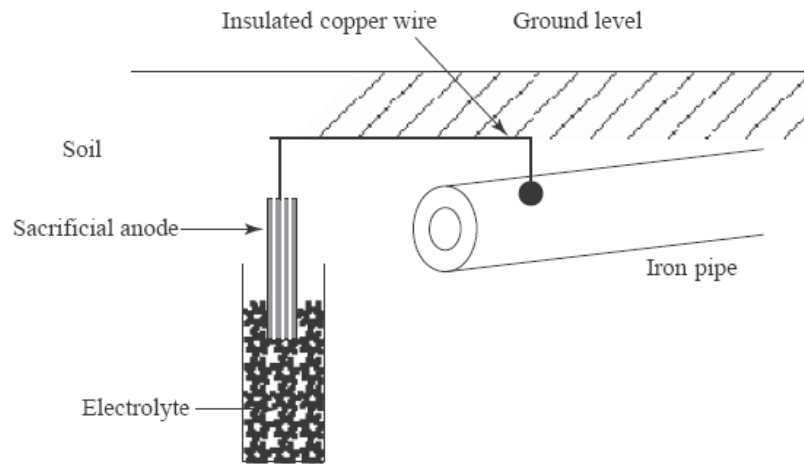

Fig. 2.11 Sacrificial anodic protection
1. *Sacrificial anodic protection:* Underground steel pipes are protected from corrosion by this method. A magnesium rod is fixed near the metal under protection and both are connected with a conducting wire. Magnesium is more positive than iron and, hence, in electrochemical cell it acts as anode and the iron acts as cathode. According to the principle of galvanic cell, it is anode that undergoes oxidation, and, hence, corrosion occurs at anode saving cathode (iron) from corrosion. Thus, magnesium sacrifices itself for saving the iron (Fig. 2.11)